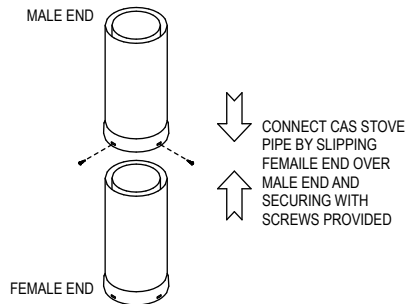

Figure 7
of the Adapter. Additional lengths of CAS Connector pipe can then be installed using the screws provided to secure the pipe lengths (male end up, female end down) (**Fig 7**). A Telescoping Length will likely be needed. The final CAS Connector Pipe section is installed into the bottom of the CAS Ceiling Support and secured using (3) 3/8" screws provided.